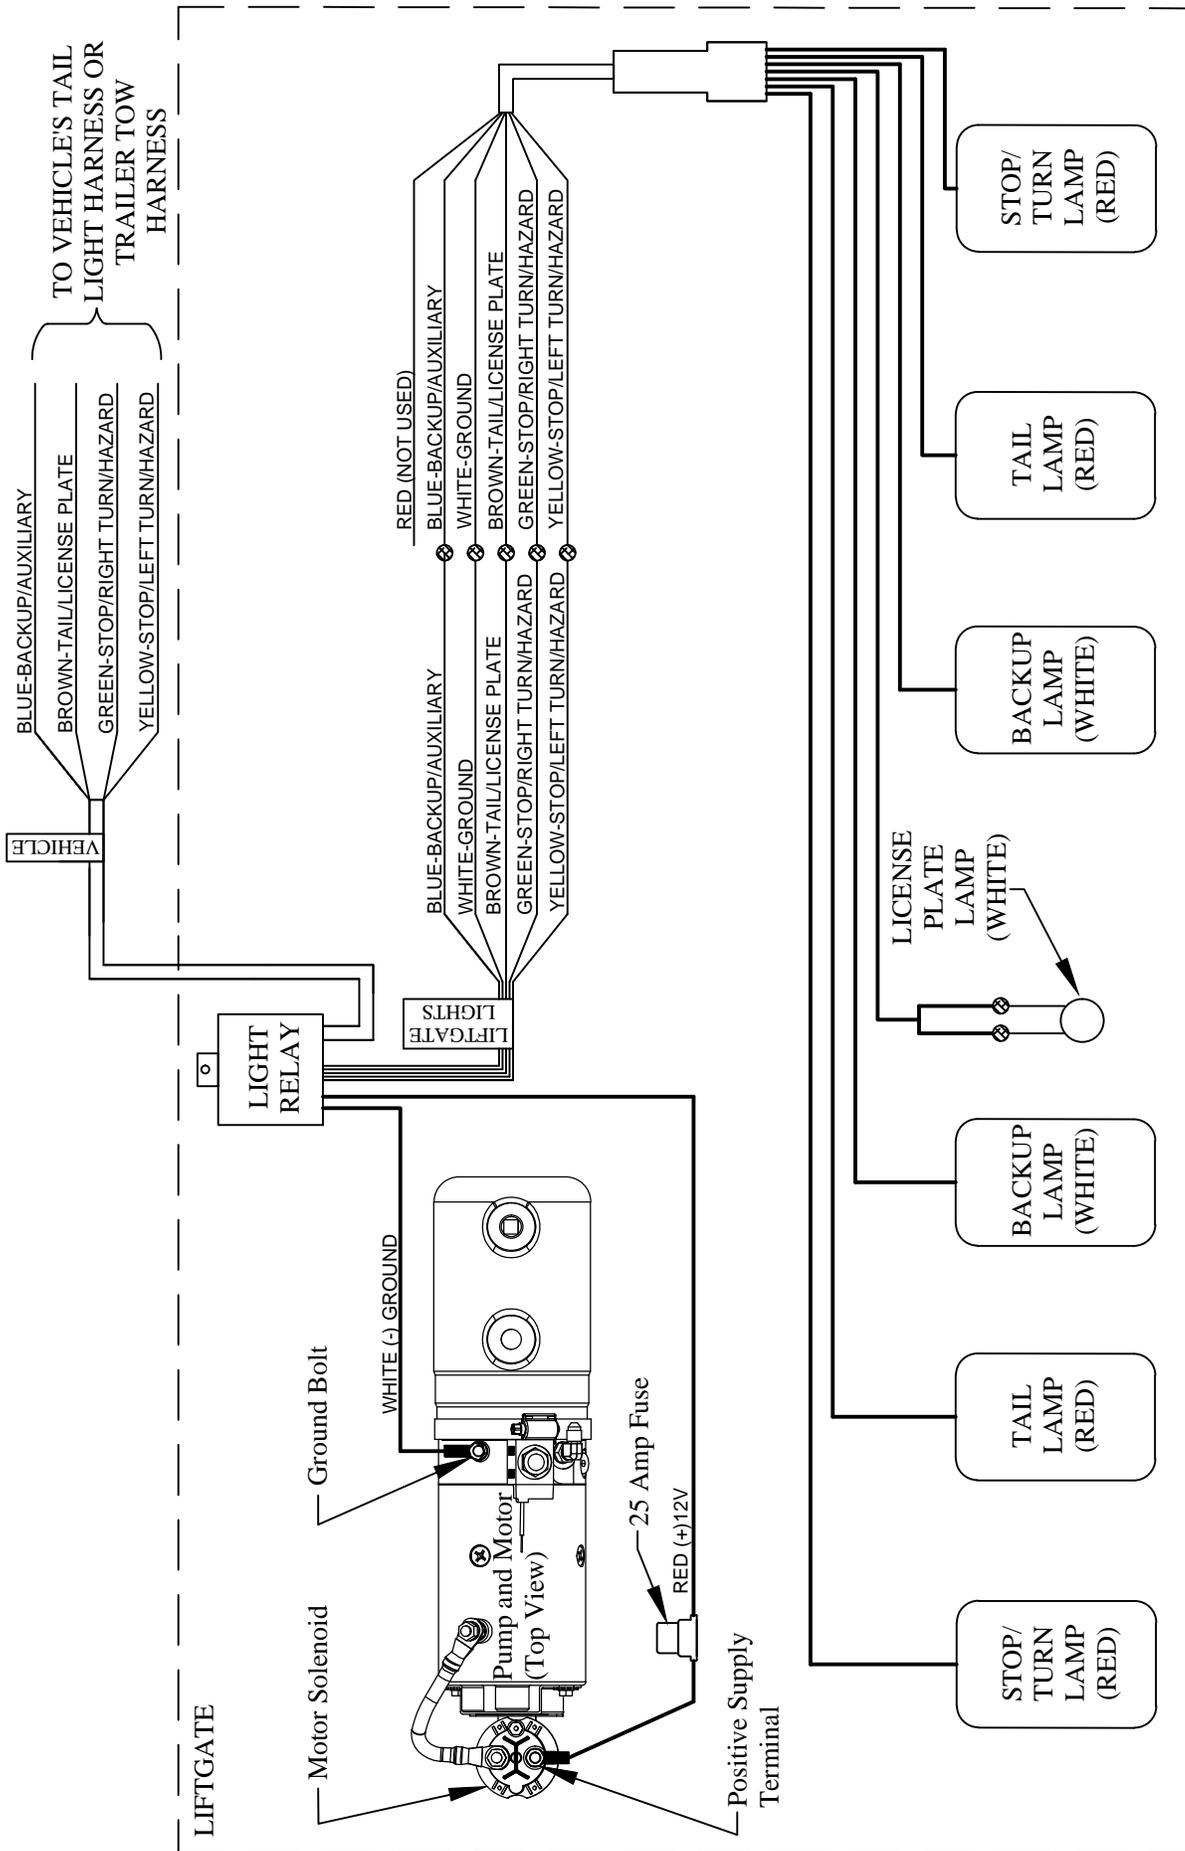

Figure 5: Wiring Diagram, 12V Light Relay- Combined Stop/Turn
12. **Connect** the relay's five output wires, labeled "LIFTGATE LIGHTS", to the corresponding wires in the liftgate's light harness using the provided butt connectors (Figure 5).
13. **Connect** the relay's positive (+) wire to the positive (+) supply terminal on the motor solenoid (Figure 5).
14. **Connect** the relay's ground (-) wire to the ground bolt on the rear of the hydraulic pump (Figure 5).
15. **Verify** that the relay wiring matches the wiring diagram on page 4 (Figure 5).